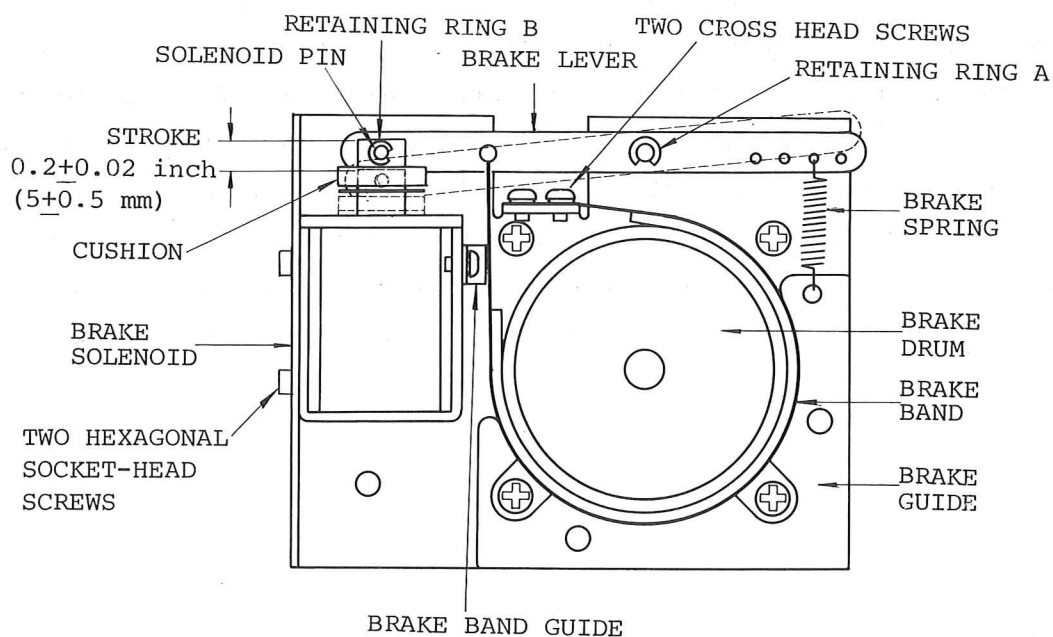

Fig. 3-3 Brake Assembly Location
7. If the readings were low in both directions, remove the brake spring (shown in Fig. 3-3) from the existing anchor hole on the brake lever and install the spring in the next hole located farther away from the brake solenoid.